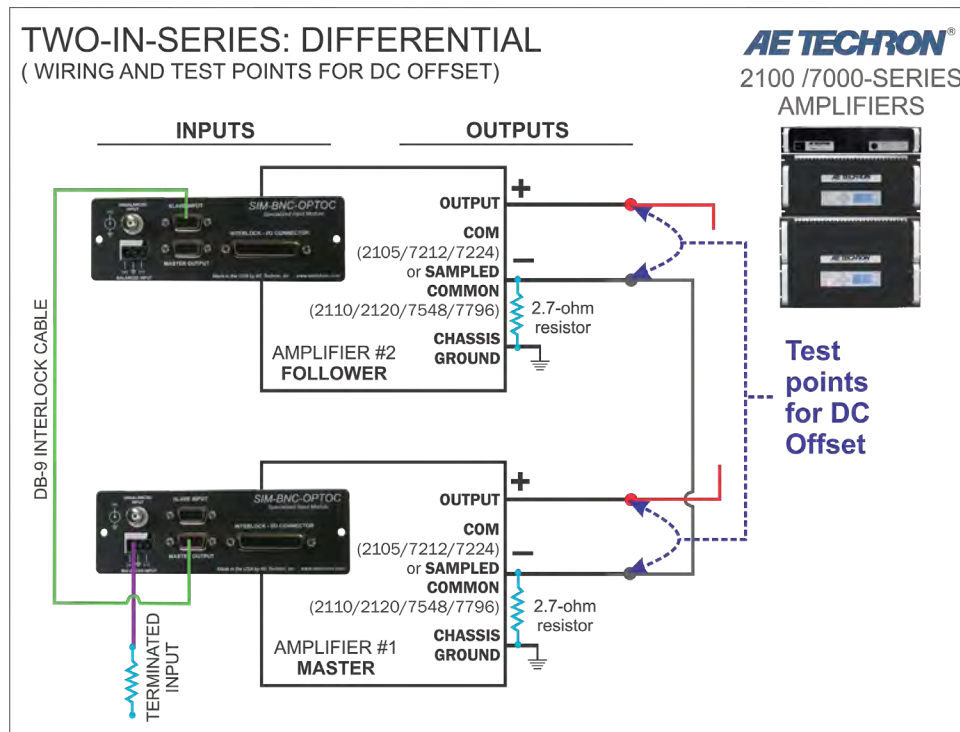

Figure 3.10 – Verifying DC Offset
6. Using a digital voltmeter set to DC, measure across each amplifier's back-panel output connector terminals (OUTPUT to COM or SAMPLED COMMON) to verify that the DC offset of each amplifier is less than 10 mVdc. See **Figure 3.10**. NOTE: If any amplifier's DC offset is greater than 10 mVdc, the amplifier may require servicing. Contact AE Techron Technical Support.